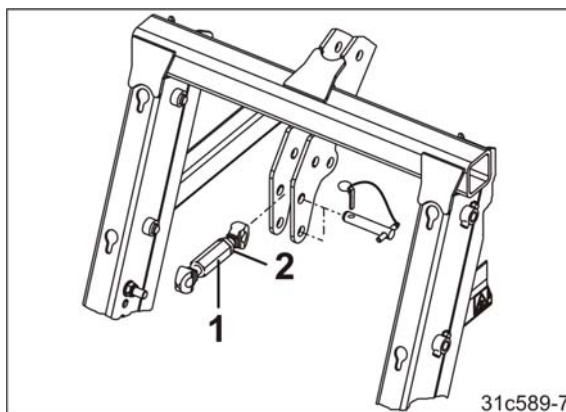

Fig. 109
8. Position the top link (Fig. 109/1) to the top pivot point (Cat. II) of the seed drill.
10. Align the seed drill so that it is straight by lengthening or shortening the upper link. Secure the position of the upper link with the lock nut (Fig. 109/2).